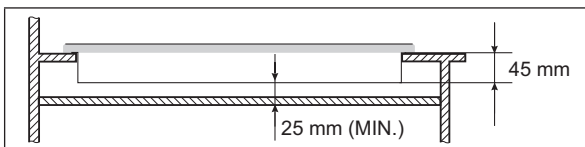

Fig. 4
• If there is an appliance located under the hob, there must be at least a 25mm gap between these two appliances (see Fig. 4).